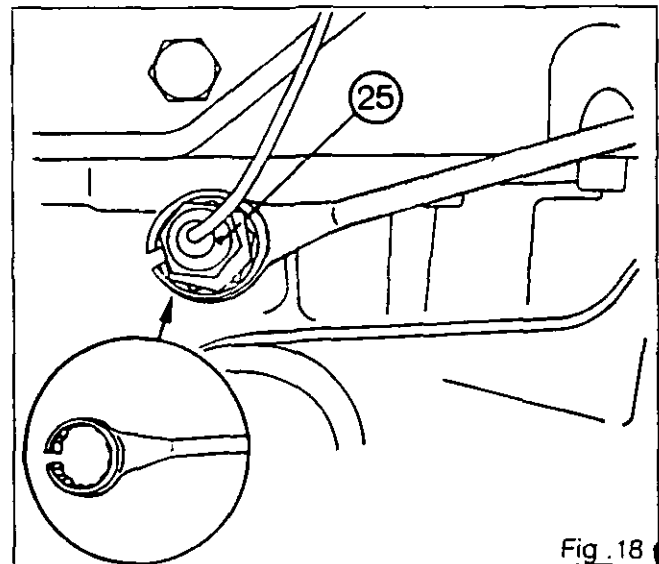

Fig .18
- 77. Stop the engine, then make a mark on the cover and on one arm. Screw in the sensor (without forcing it) until it meets the cam (9) and unscrew by approximately one turn (ie. 1.5 mm).
- 82. Tighten the nut (25) to a torque of 25 Nm using a suitable spanner (Fig. 18).